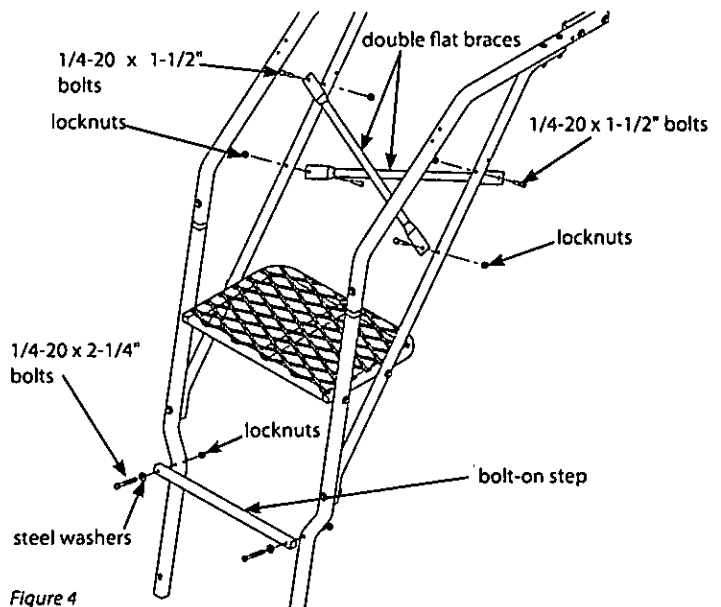

Figure 4
Attach the round tube, double flat braces (10343) to the upper ladder support tubes using (4) provided 1/4-20 x 1-1/2" bolts and locknuts. **SEE FIGURE 4.** One double flat brace should be positioned on each side of the upper ladder support tubes for clearance purposes.
6. Attach the bolt-on step (410034) to the front side of flared rails using (2) provided 1/4-20 x 2-1/4" bolts, locknuts and steel washers. **SEE FIGURE 4.** You must now tighten all nut and bolt assemblies. **Be sure not to over tighten or crush tubing when tightening!**